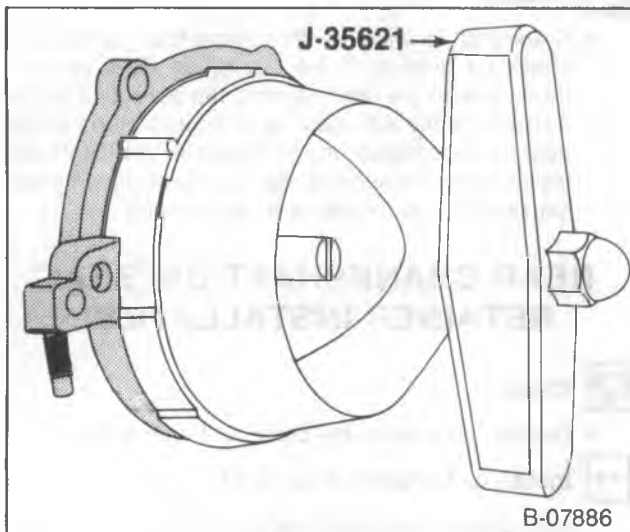

Figure 28—Installing the Rear Crankshaft Oil Seal
Install or Connect (Figure 28)
4. Bearing, washer and nut (figure 28).